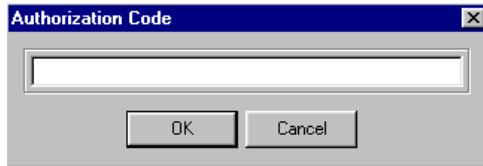

Figure 24: Authorization Code Dialog
6. When the Authorization Code dialog opens, see *Figure 24*, enter the auth code then click OK.